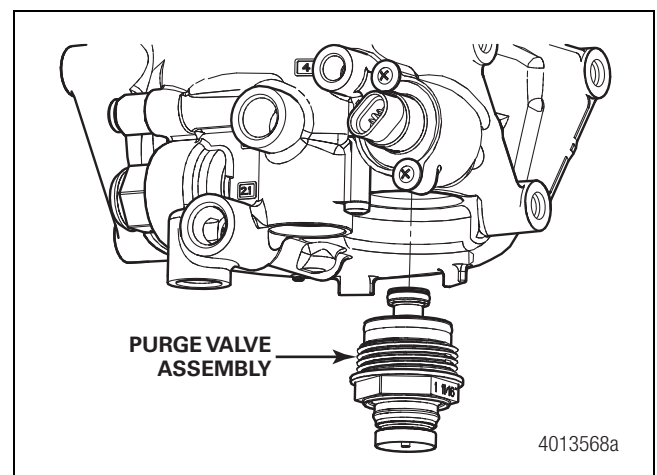

Figure 2.9
1. Use a 1-11/16" wrench to remove the purge valve assembly from the air dryer. Figure 2.9.